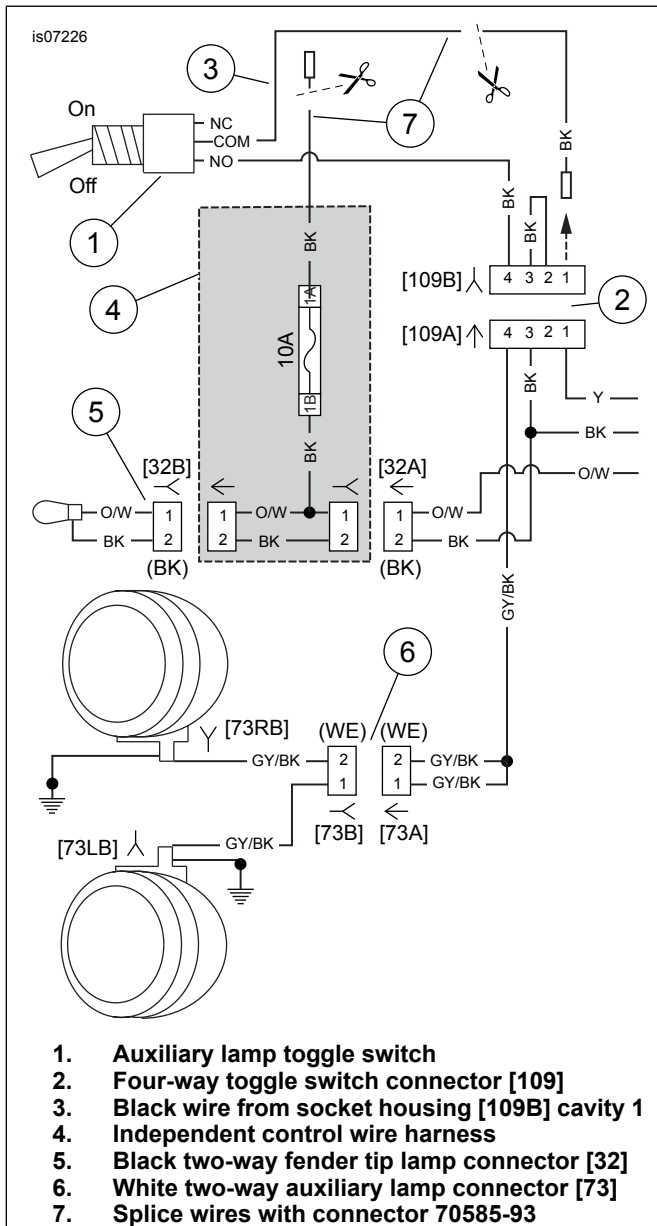

Figure 1. Wiring Diagram, FLHR Installation
- See Figure 1. Remove the hex nut and washer from the front of the auxiliary lamp toggle switch (1) on the back of the headlamp nacelle. Bring the toggle switch out through the headlamp opening, along with the four-way toggle switch connector [109] (2).
- See the service manual appendix to unplug the connector halves. Locate the black wire (3) coming from cavity 1 of socket housing [109B] and trace it to the COMMON terminal of the toggle switch.